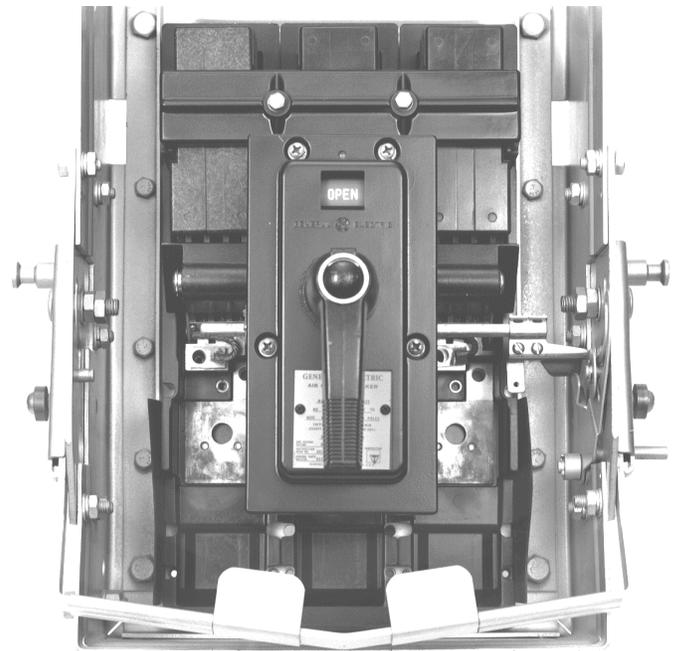

Figure 4. Disassembled AK-1-25 breaker.
5. Remove and discard the three electromechanical trip units. The disassembled breaker is shown in Figure 4.